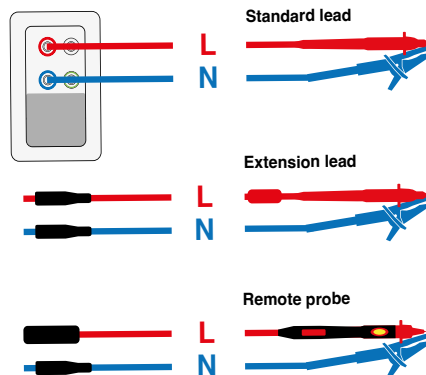

Figure 5.5: Shorted test leads
1. Short test leads first as shown in figure 5.5.